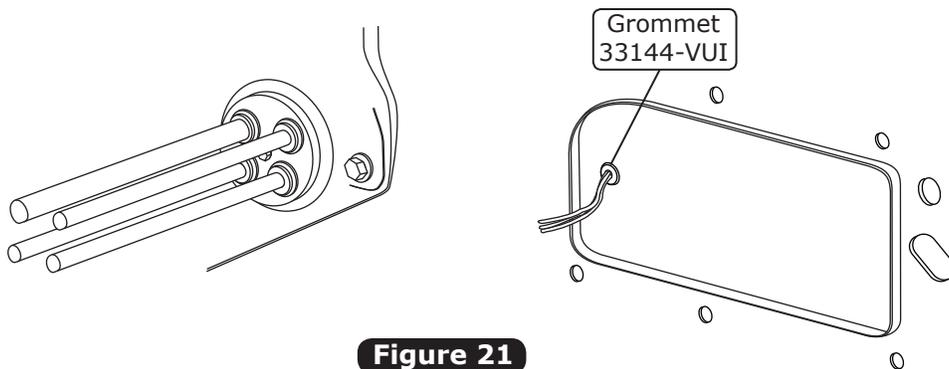

Figure 21
2. Route A/C wires (12 volt/grounds/binary switch/heater valve) through 3/8" grommet as shown in Figure 21, below.